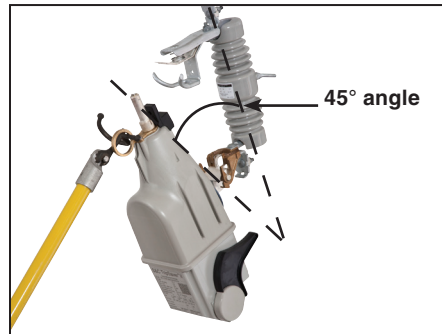

Figure 5. Closing the TripSaver II Recloser.
STEP 3. Swing the TripSaver II recloser to within approximately 45 degrees of the fully-closed position. See Figure 5. While firmly gripping the hookstick, drive the recloser closed with forward force. **Maintain the forward force until the recloser properly closes and latches into the cutout mounting.**